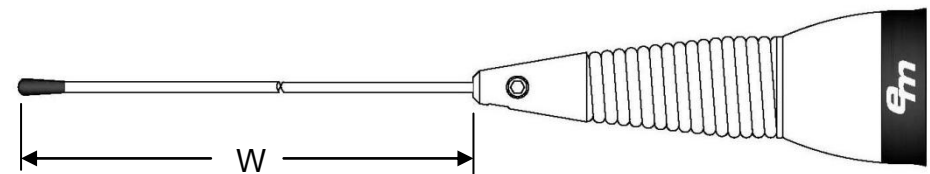

Figure 4
2. **Note:** The Tuned Length "W" is determined by measuring the distance between the top of the whip adapter and the top of the whip. See **Figure 4**. Cut length dimension will be approximately 1" (25mm) longer than Tuned Length "W".
5. Cut the whip length required to establish the specified Tuned Length "W" as shown in Figure 4. Imperial and Metric Length units are given for convenience.